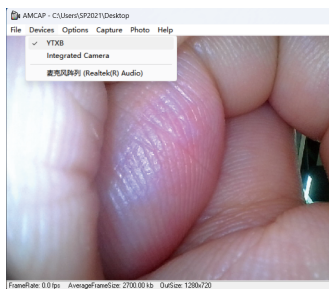

Figure 4
- (2) Then click Devices and select the camera you want to access (as shown in Figure 4).